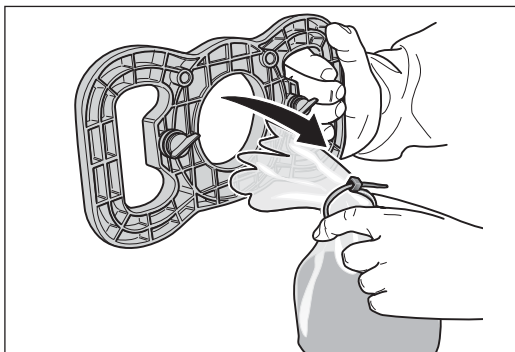
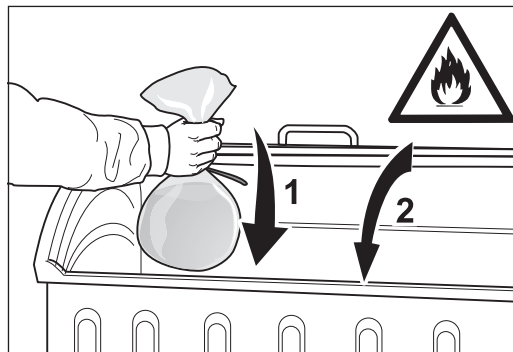

Fig. 31 Remove the waste bag from the emptying fixture.
Fig. 32 Throw the filled waste bag into a **non-combustible** container (1) and keep this closed (2) ➔ **risk of fire!**
- **The dust bag must always be removed from the machine directly after sanding and emptied into a waste bag with the emptying fixture! Dispose of these waste bags in a non-combustible container! Cover this container with a non-combustible cover (fig. 32)!**
- 18 Remove the filled waste bag from the emptying fixture (fig. 31) and place it in a **non-combustible** container (fig. 32)! Due to the **risk of fire**, seal the container with a **non-combustible** cover!